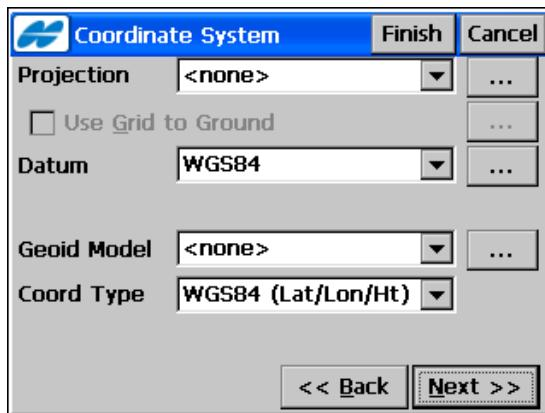

Figure 4-18. Coordinate System
- **Next** – opens the ***Coordinate System*** screen (Figure 4-18 on page 4-17).
On the **Coord System** screen (Figure 4-18 on page 4-17) select the coordinate type and distance units for the data in the file exported: